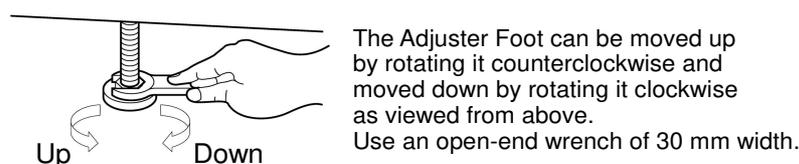

Figure 2-1 How to Use the Adjuster Foot
- Do not install this product on a sloped surface. The Adjuster Foot is only for temporary fixing, and cannot support the unit's own weight. You also must not lean on this product or use it as a support. How to use the Adjuster Foot is shown in Figure 2-1.
- Move the Adjuster Foot up enough from the floor by using an open-end wrench (30 mm width). You can move the Adjuster Foot up by rotating it counterclockwise as viewed from above (Figure 2-1).